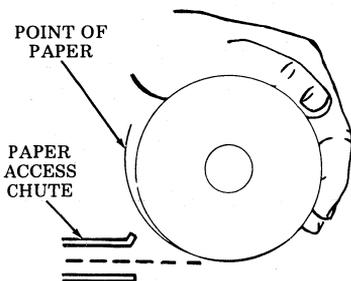

Fig. 51—Feeding Paper in Chute
- 9.03 Back up roll until point of paper drops behind lip of paper access chute (Fig. 51).